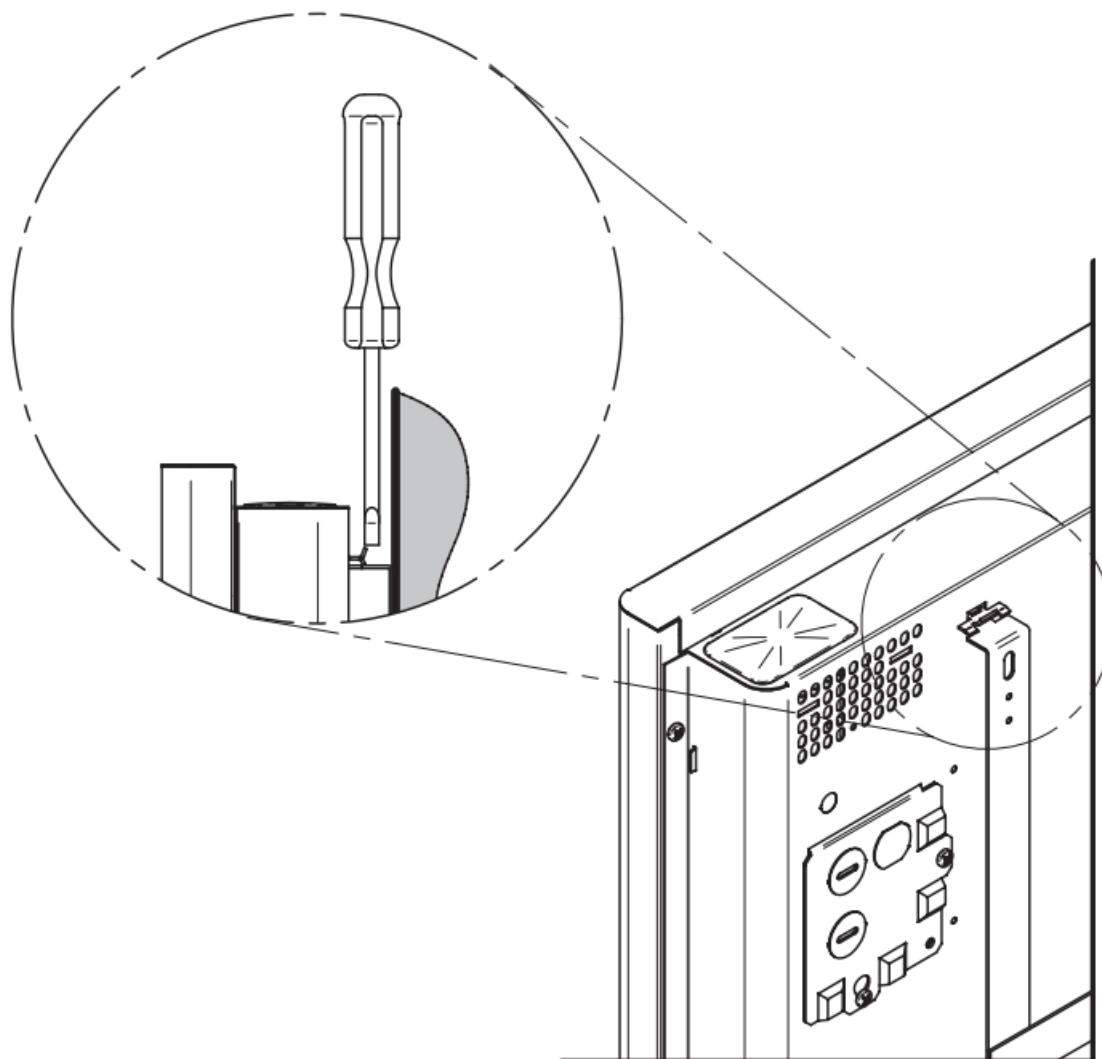

FIG. 7
1. Using a screwdriver, press on each clip. **(FIG. 7)**